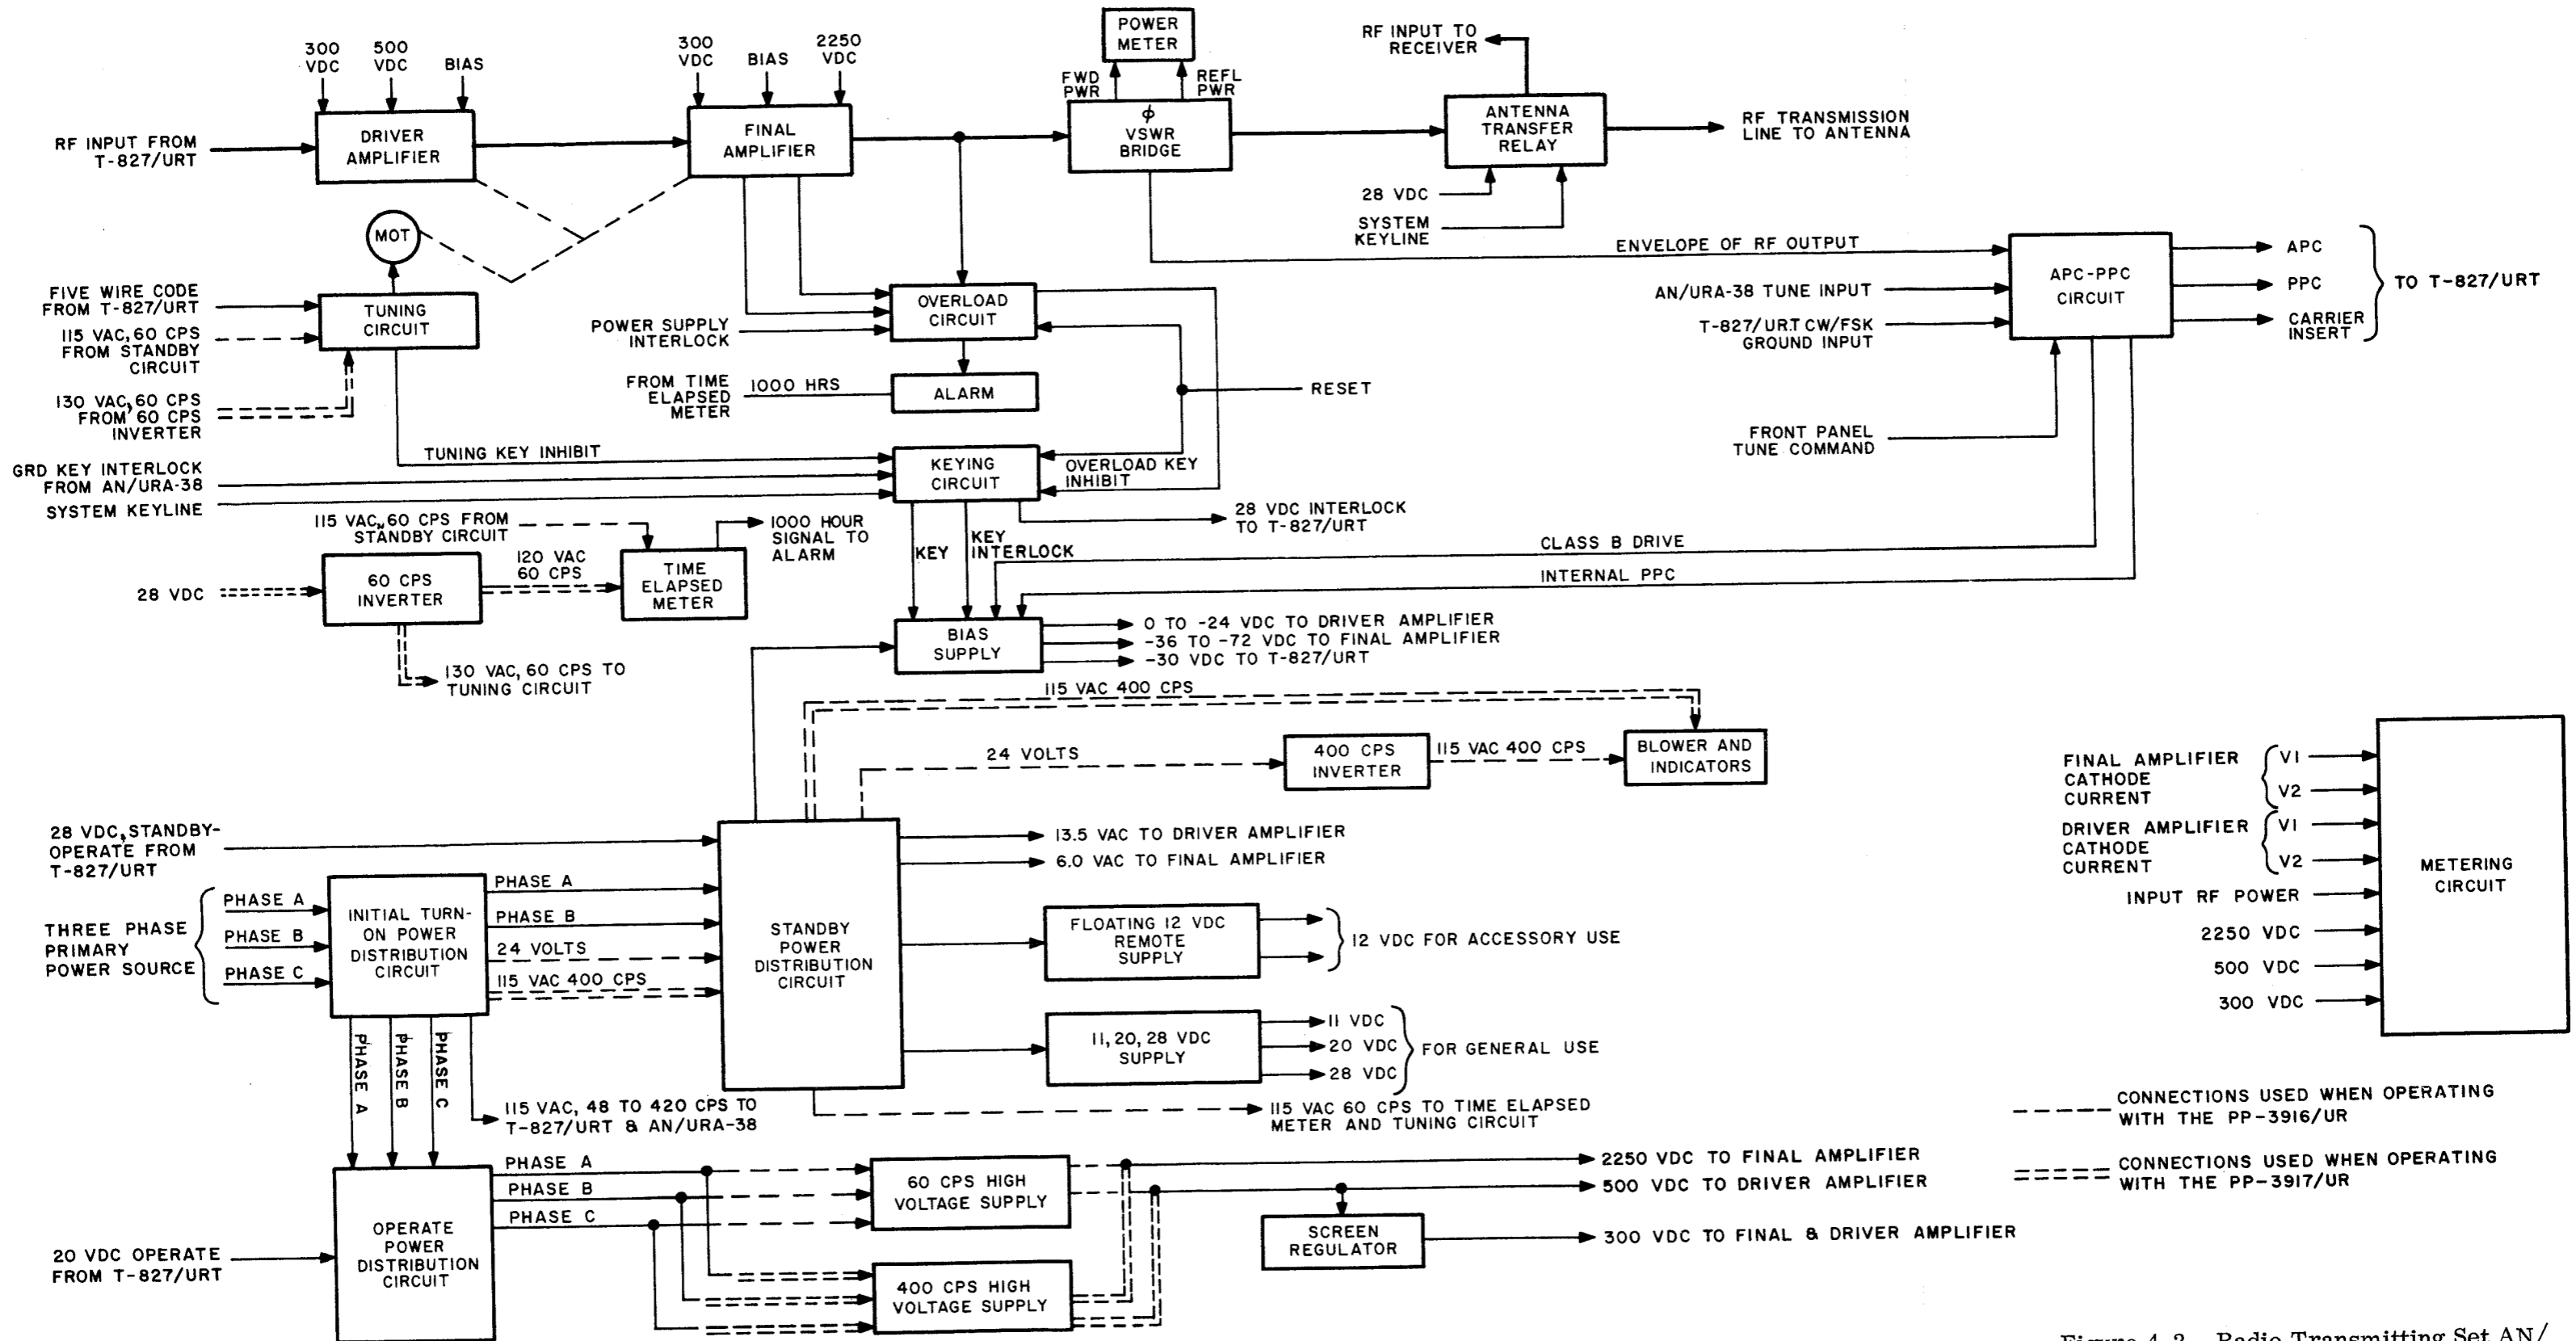

Figure 4-2. Radio Transmitting Set AN/URT-23(V), Functional Block Diagram
4-22. The AN/URT-23(V) (figure 4-2) is a 1 KW radio transmitting set which consists of an exciter (the T-827/URT), a linear power amplifier (the AM-3924(P)/URT), and a power supply (the PP-3916/UR or PP-3917/UR depending on the frequency of the primary power). For information concerning operation of the T-827/URT, refer to NAVSHIPS 0967-032-0010. The AN/URT-23(V) is normally operated with the AN/URA-38 (an automatic antenna coupler system) and an auxiliary receiver such as the R-1051/URR.